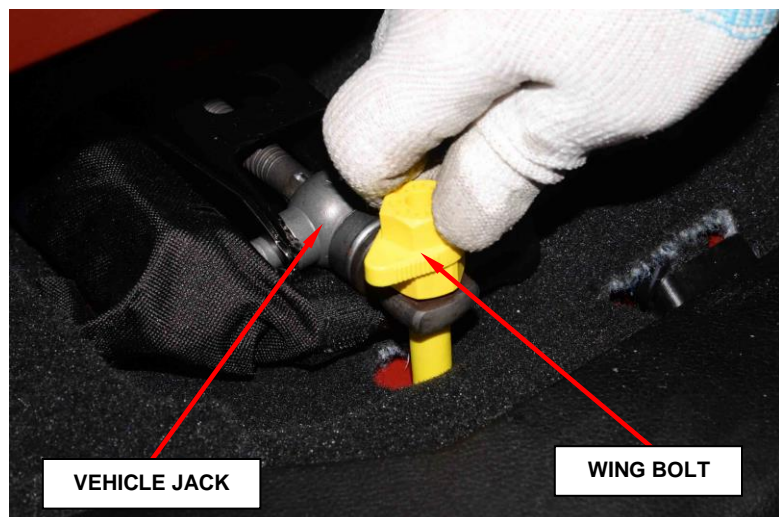

Figure 4 – Wing Bolt Removal
2. To remove the jack and tools, turn the wing bolt counterclockwise then remove the wing bolt and slide the assembly out from under the seat (Figure 4).
12. Strap the storage bag unto the jack and insert the assembly under the passenger seat, making sure to align the jack end to the wing bolt (Figure 4).